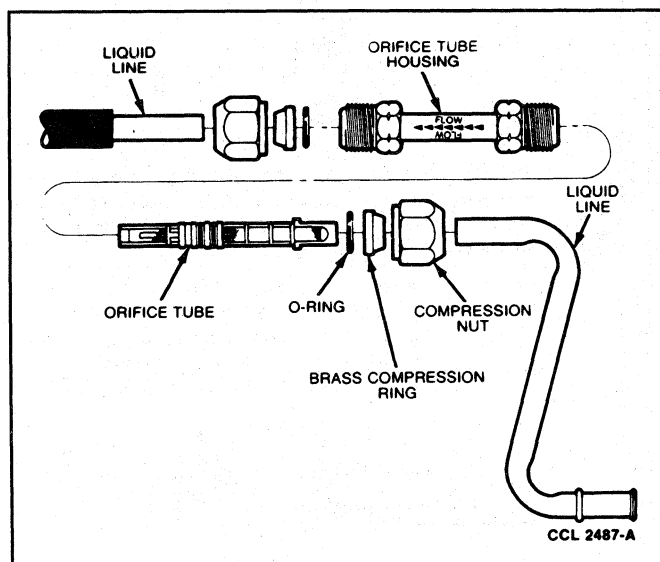

FIG. 6 Orifice Tube Kit Disassembled
8. Lubricate O-rings with clean refrigerant oil and assemble orifice tube kit (with orifice tube installed) to liquid line (Fig. 6). Ensure flow direction arrow is pointing toward evaporator end of liquid line, and taper of each compressor ring is toward compression nut.